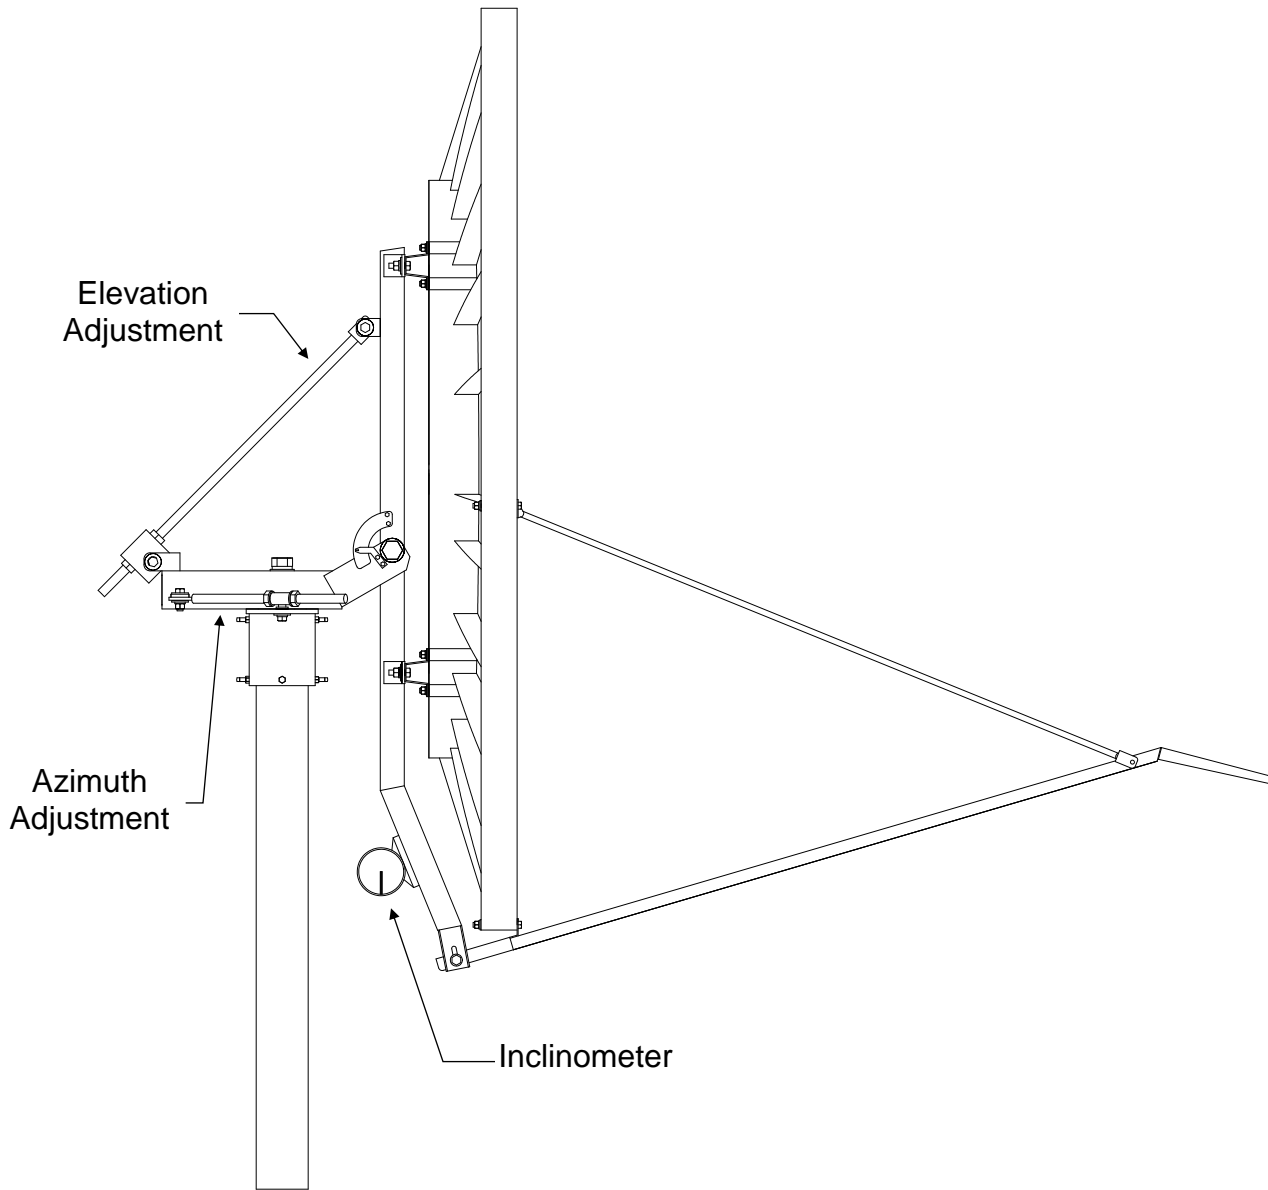

FIGURE 4
- 1) Aligning to primary satellite: Attach the inclinometer to the reflector support ring as shown in figure 4. This surface compensates for the 22.3° offset in the reflector, therefore a direct reading can be taken.
- 5) Tighten the four (4) 3/4" nuts used for adjustments.